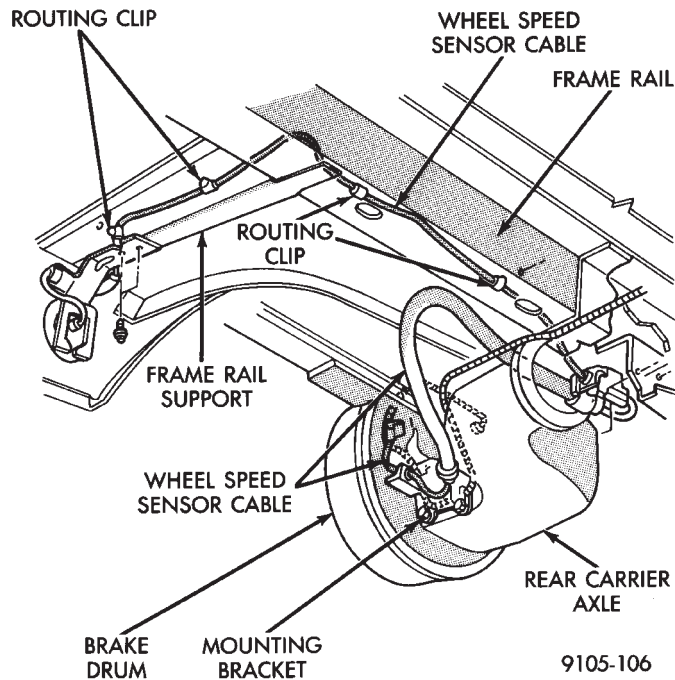
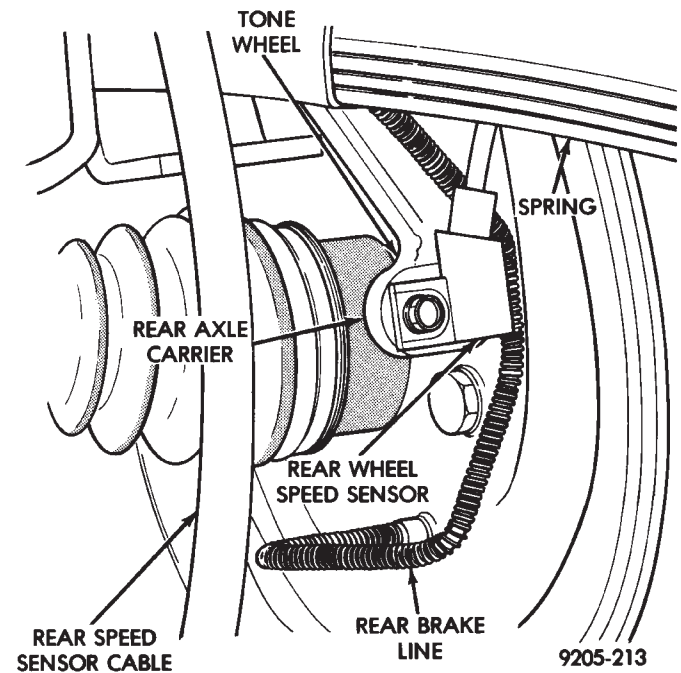

Fig. 9 Rear Wheel Speed Sensor Routing A.W.D
Fig. 10 Rear Wheel Speed Sensor Mounting A.W.D
(1) Raise vehicle and remove rear wheel and tire assembly.
(2) Remove rear speed sensor wiring grommet, retaining bracket. Remove grommet from underbody and pull harness through hole in underbody. (Fig. 9) **When removing grommet from underbody, do not pull on speed sensor cable.**
(3) Unplug speed sensor cable connector, from vehicle wiring harness.
(4) Remove the 4 arrow head clips which route the speed sensor cable along the underbody (Fig. 9).
(5) Remove the speed sensor cable and its frame rail routing bracket as an assembly. (Fig. 9).
(6) Remove the 2 bolts which secure the speed sensor cable assembly mounting bracket to the rear axle. Remove the bracket assembly from the vehicle by rotating the bracket and removing it from under the brake tube.
(7) Remove the speed sensor assembly attaching bolt (Fig. 10).
(1) Position the rear wheel speed sensor assembly bracket under the brake tube (Fig. 9). Hand start the outboard bracket attaching bolt. Align the brake tube
(2) Coat the wheel speed sensor head with High Temperature Multi-Purpose E.P. Grease. Install the wheel speed sensor head into the rear axle casting (Fig. 10) and install bolt. Torque the speed sensor to rear axle attaching bolt to 7 N•m (60 in.lbs.)
(3) Bend the speed sensor cable assembly, rubber coated section toward the rear of the vehicle. Position the anti-rotation tab of the sensor assembly frame rail bracket, into its respective hole. Install the screw that attaches the frame rail bracket to the frame and torque to 4 N•m (35 in. lbs.).
(4) Connect the speed sensor cable assembly to the vehicle rear wiring harness. Install the speed sensor cable assembly wiring grommet (Fig. 9) back into the underbody wiring access hole.
(5) Position the rear speed sensor cable assembly grommet retaining bracket on the underbody, (Fig. 9) making sure the bracket does not pinch the sensor wiring. Install the 2 bracket mounting screws and torque to 4 N•m (35 in.lbs.).
(6) Route the speed sensor wiring along the vehicle frame rail (Fig. 9) and install the 4 arrow head clips.
(7) Install the rear wheel assembly and torque the wheel stud nuts to 129 N•m (95 ft.lbs.)